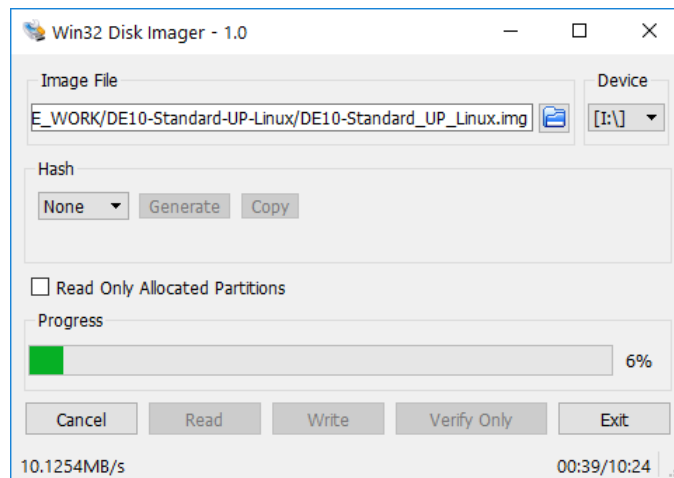

Figure 1. The Win32 Disk Imager program.
2. Select the drive letter corresponding to the microSD card under *Device*, as indicated in Figure 1.
3. Select the *DE1-SoC-UP-Linux.img* image under *Image File*, as shown in Figure 1. This image file can be found on the Intel FPGA University Program webpage alongside this tutorial.